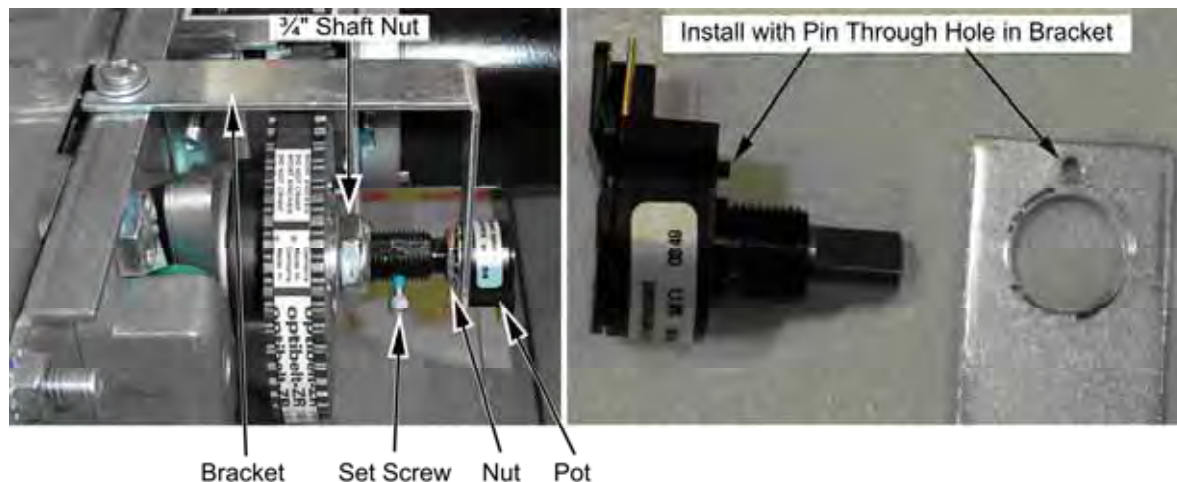

Figure 19. Replacing the 5 K Ω Steering Pot
To replace a pot, refer to Figure 19 and perform the following steps:
4. Reverse these steps to install the new pot. Install the pot with the plastic pin through the small hole in the bracket, as shown in Figure 19. Use Loctite Blue to ensure the set screw is secure.
Refer to Figure 19 above, and Figure 20, and perform the following steps to remove the force-feedback belt for repair.